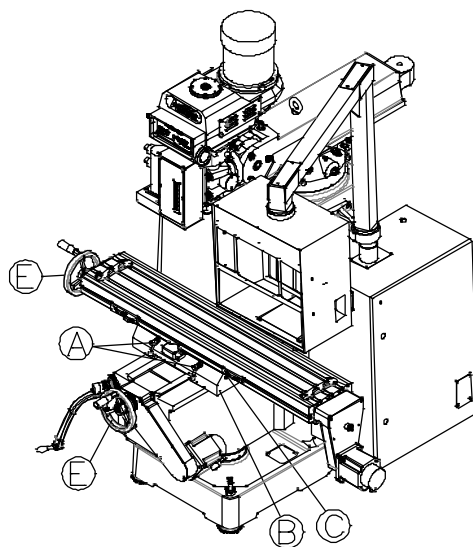

Fig. 7-5
7.6 Gib Adjustments (Fig. 7-5)